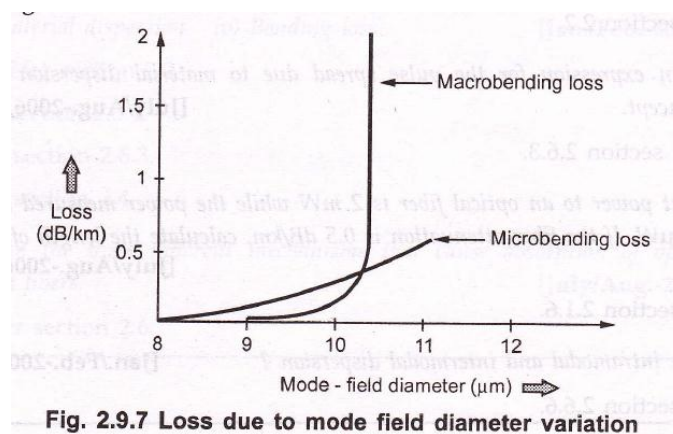

Fig. 2.9.7 Loss due to mode field diameter variation
- The bending losses are function of mode-field diameter, smaller the mode-field diameter, the smaller the bending loss. Fig. 2.9.7 shows loss due to mode-field diameter.